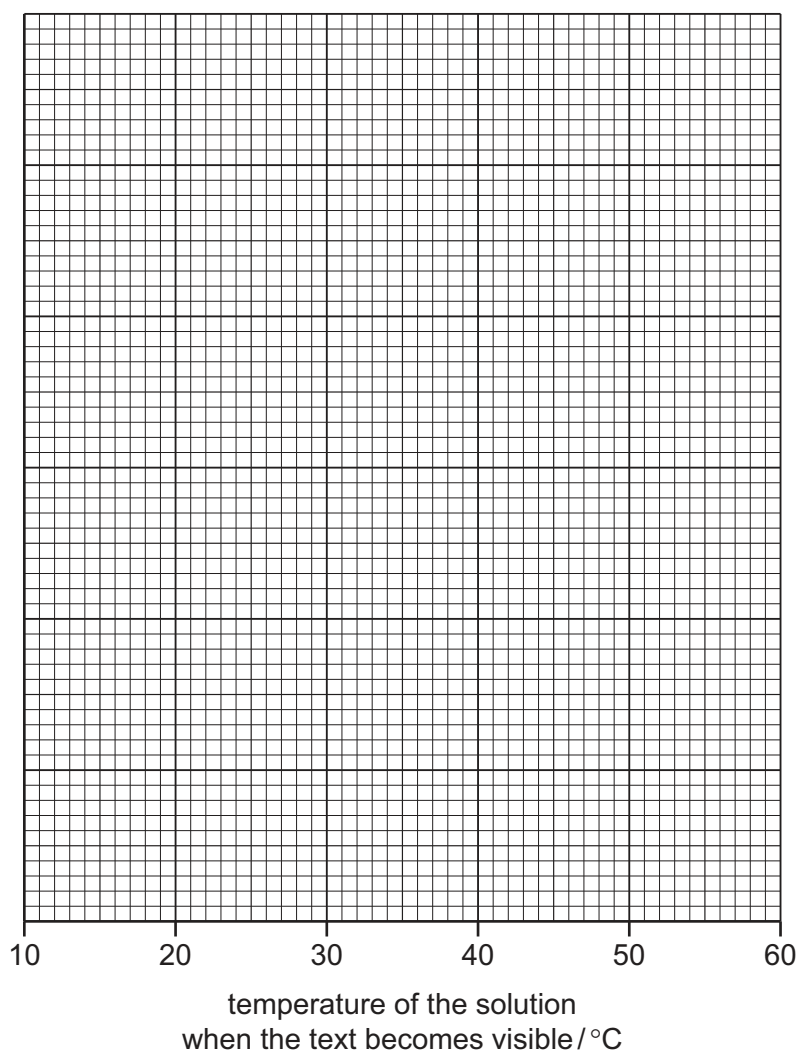

Fig. 1.2
- (c) Write a suitable scale on the y-axis and plot your results from Experiments 1 to 5 on Fig. 1.2. Draw a smooth curve of best fit.
Show your working on Fig. 1.2.